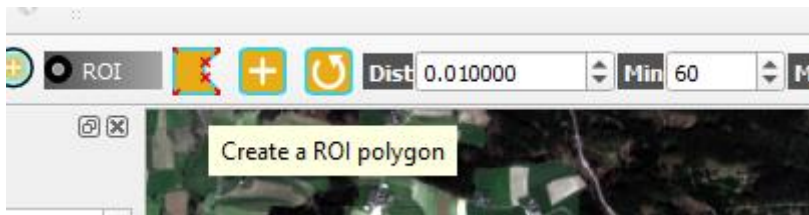

Figure 7. Creating a new ROI.
5) Once you have created a ROIs file, you can create specific regions, i.e. training polygons using *Create a ROI polygon* tool (Figure 7).